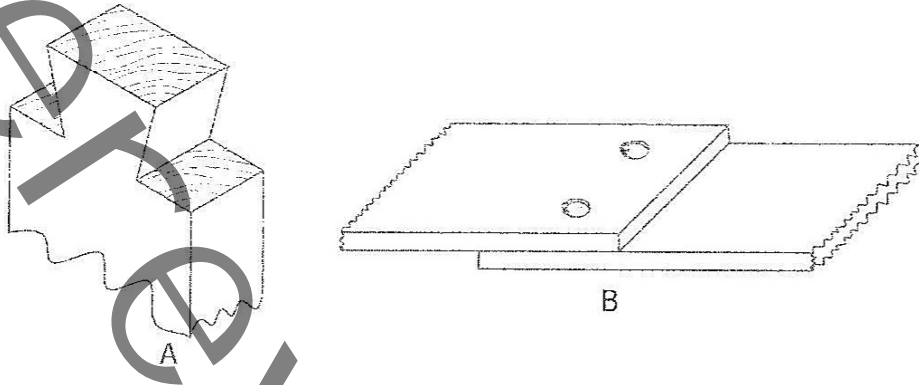

Figure 1
- 1 (a) Figure 1 shows **two** types of joints a Grade 9 pupil made on two of his artifacts.